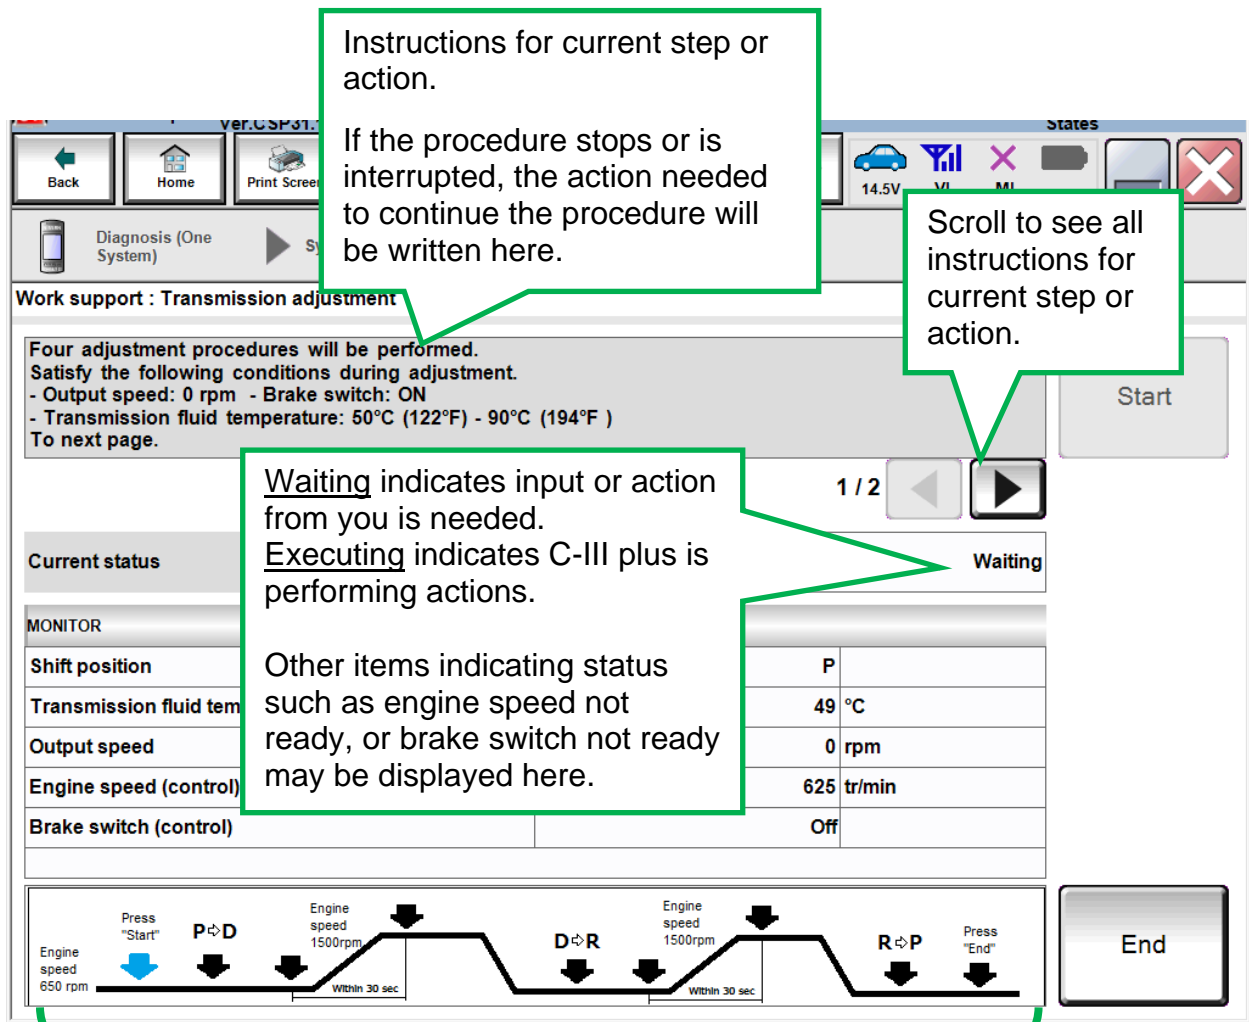

Figure 3
- While performing the Transmission Adjustment procedure, a screen like the one in Figure 3 will display.
- Review the call outs in Figure 3 explaining the information on this screen.